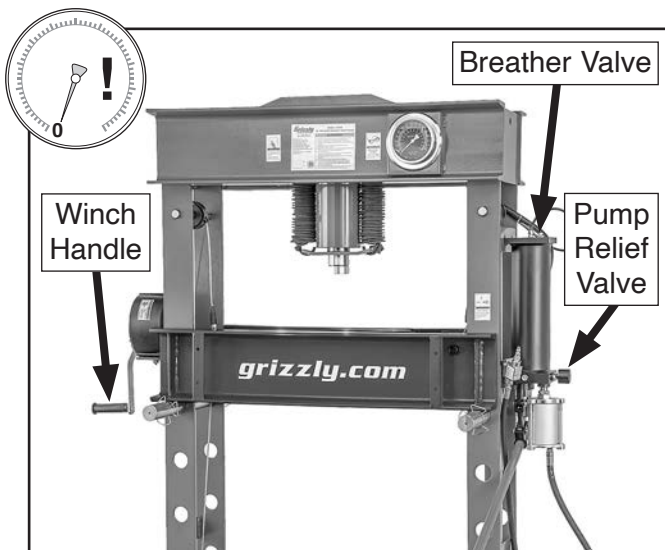

Figure 19. Location of pressure relief/press bed components (safety guard removed for clarity).
1. Rotate pump relief valve and breather valve (see **Figure 19**) counterclockwise to release hydraulic system pressure.
3. Rotate winch handle (see **Figure 19**) clockwise to raise bed off of support rods.
4. Remove (2) retaining rings on rear of support rods, then remove (2) support rods.